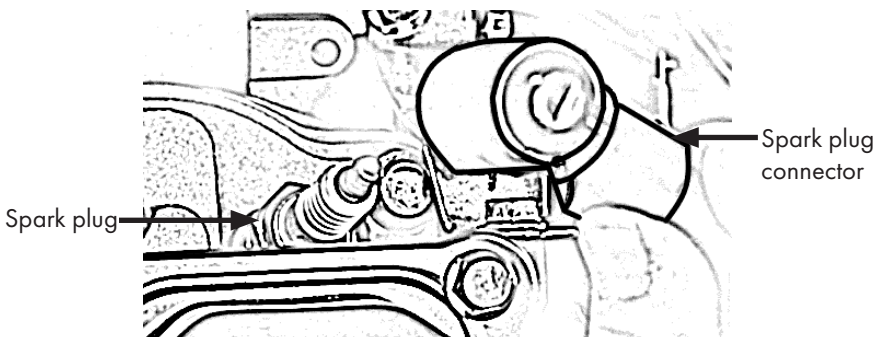

Figure 24
- Remove the spark plug cap, Fig. 24.